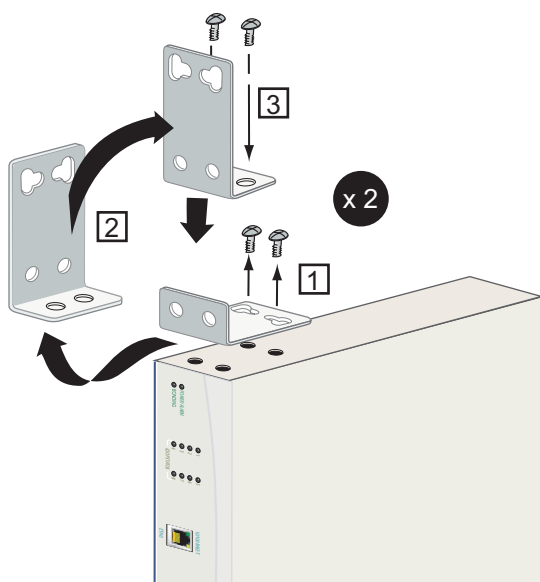

Figure 6. Repositioning the Brackets for 23-inch Racks
1.	<p>23-inch Installations Only:</p> <p>Remove the mounting brackets. (The Total Access 238 ships with mounting brackets attached for a 19-inch rackmount installation.) Attach mounting brackets so that the smaller portion of the bracket attaches to the side of the chassis. (The longer portion of the bracket will be flush with the front of the chassis.) See <a href="#">Figure 6</a>.</p> <p>To avoid damaging the unit, use only the screws included in the shipment when attaching mounting ears to the chassis.</p>